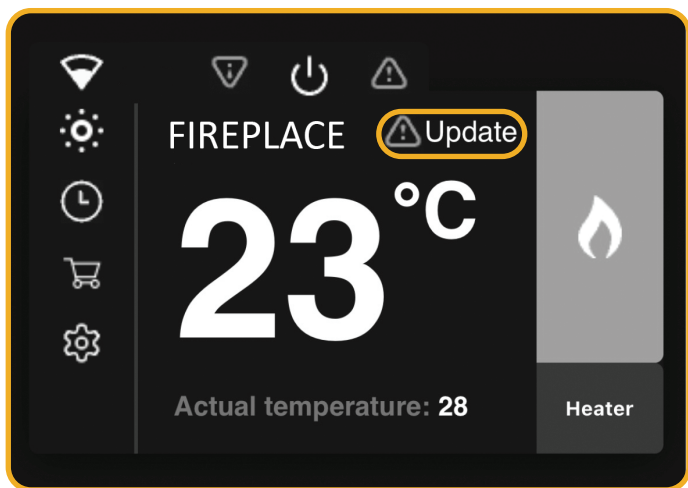

Figure 12.1 | Make sure the fire is up to date
- Make sure your fireplace is up-to-date. If you see a 'Update' icon in the top right of the fire press it. See Figure 12.1